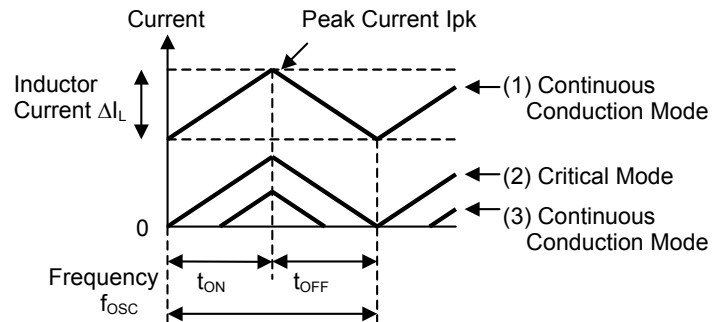

Fig. 4. Inductor Current State Transition
Ideally, the value of L is set so that inductance current is in continuous conduction mode. However, as the load current decreases, the current waveform changes from (1) CCM: Continuous Conduction Mode \rightarrow (2) Critical Mode \rightarrow (3) DCM: Discontinuous Conduction Mode (Fig. 4.).